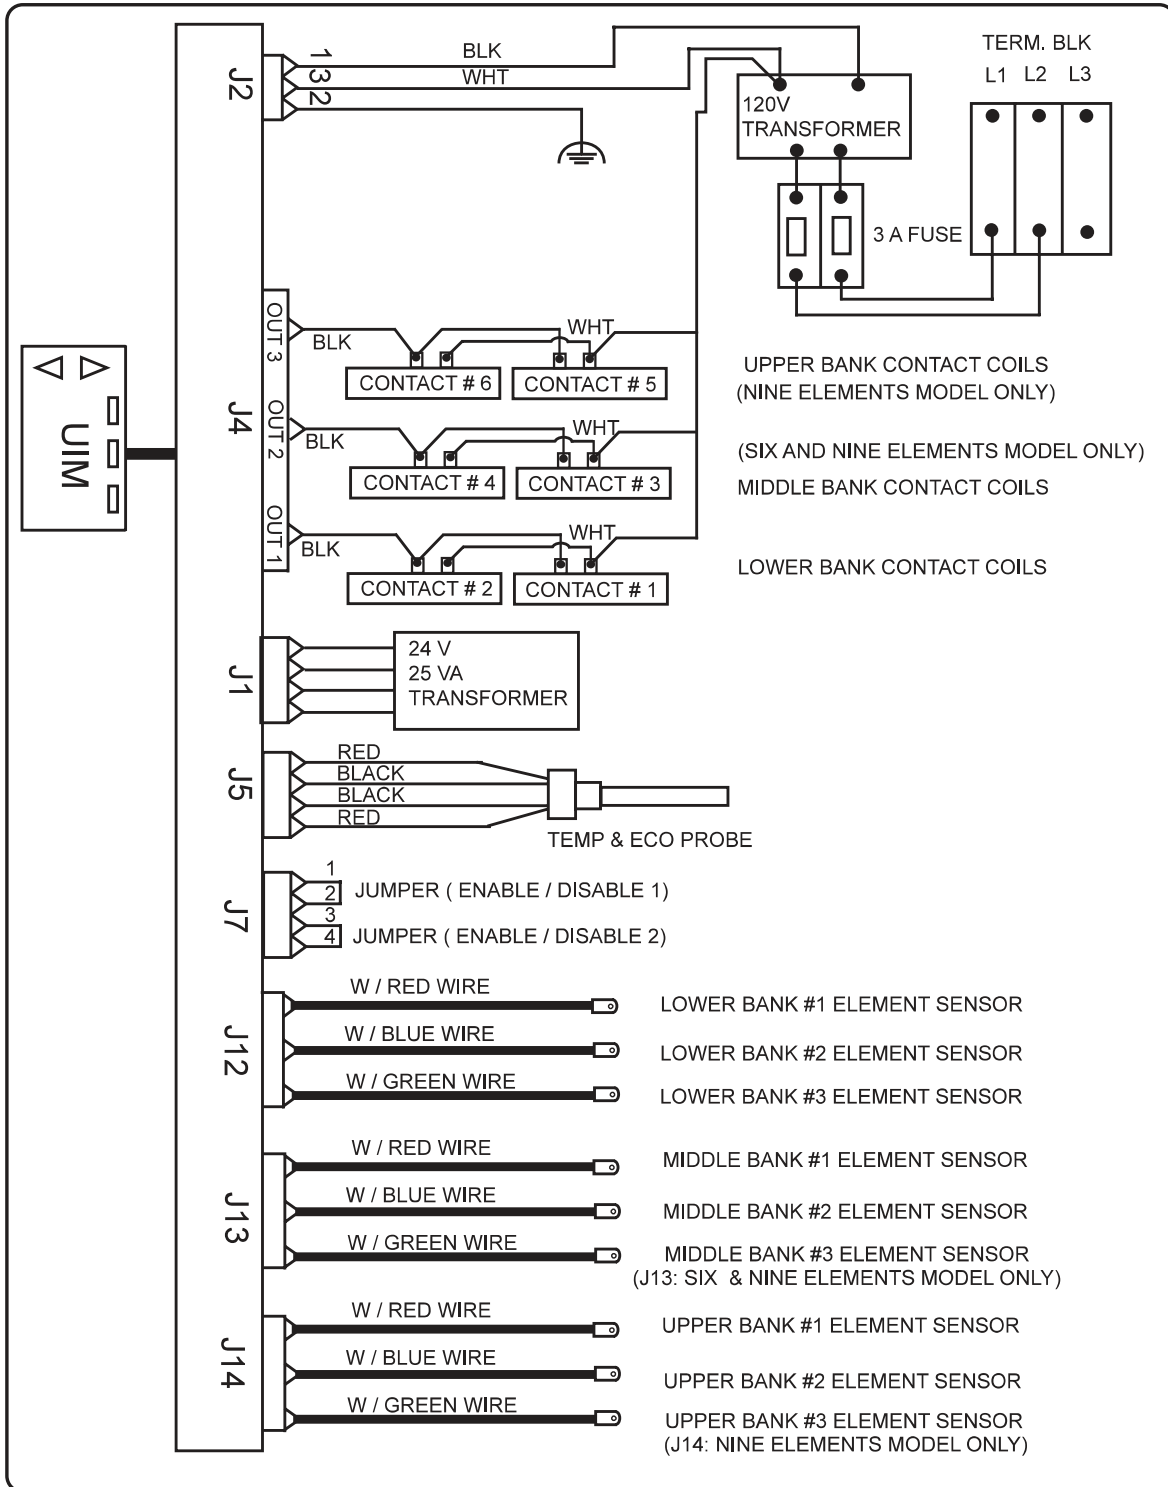

Figure 6
- The control circuit, which controls the electrical power to heating elements, referring the following control circuit diagram Figure 6